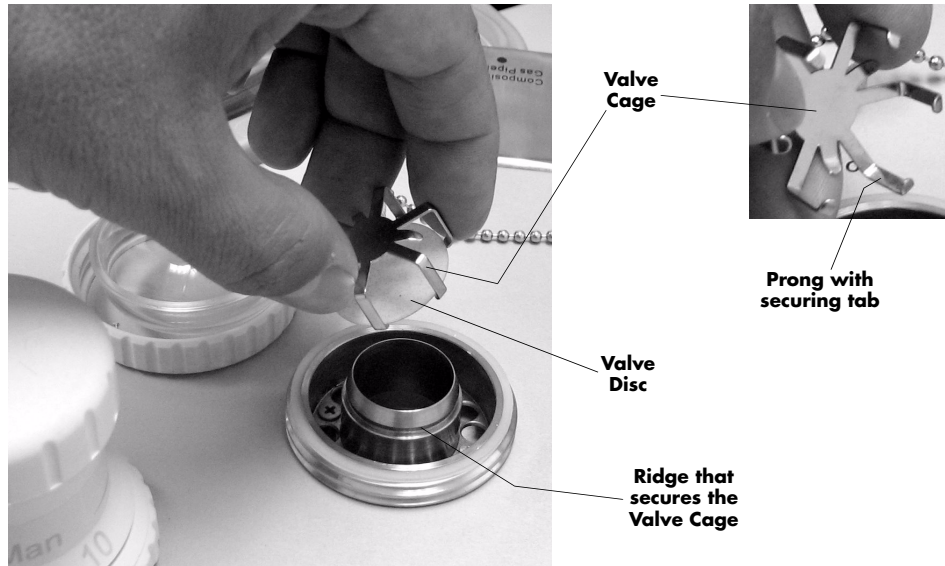

FIGURE 3-10 Valve Cage Removal
3. The valve cage will be removed in this step (refer to FIGURE 3-10). The six prongs of the valve cage have tabs that secure it in the valve assembly. While noting the previous **CAUTION**, use two hands to remove the valve cage by gently manipulating the prongs to release the tabs. As the valve cage is lifted away from the assembly, ensure that the valve disc does not fall out.